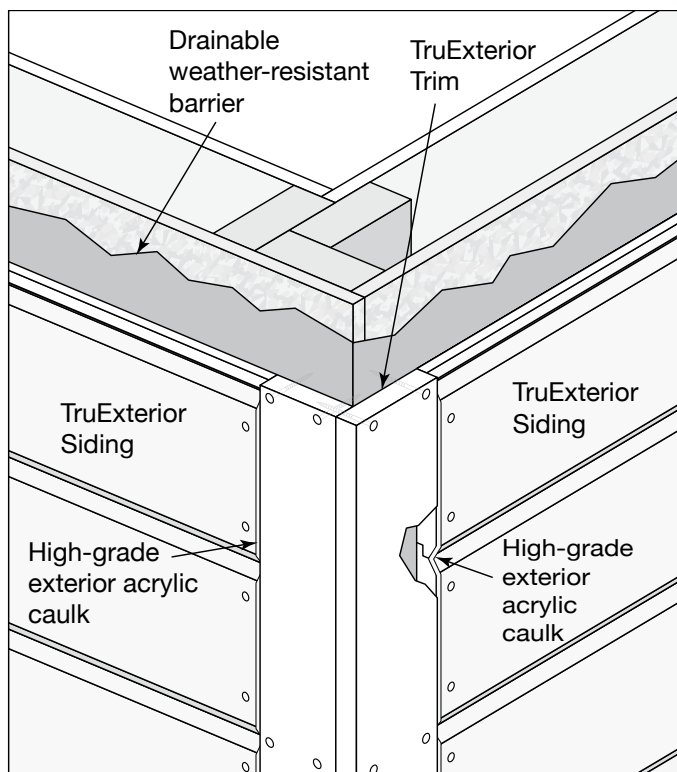

Fig. 9b: Outside corner detail, no gap and with caulk
- Typical outside corners are created using 1"x5" and 1"x6" trim, installed using approved fasteners (**Fig. 9b**).
- Secure each trim piece with 2 nails every 16" along the length of each piece of trim, staggering the nail pattern slightly to prevent opposing nails from contacting each other (**Fig. 9b**).
- Ensure that the nails penetrate the framing and the nails of the longer trim piece penetrate the shorter trim piece at the corner (**Fig. 9b**).
- Butt each course of siding up to the corner trim and secure in place (**Fig. 9b**).
- Seal the joint between the outside corner trim and the siding with high-grade, exterior acrylic caulk (**Fig. 9b**).